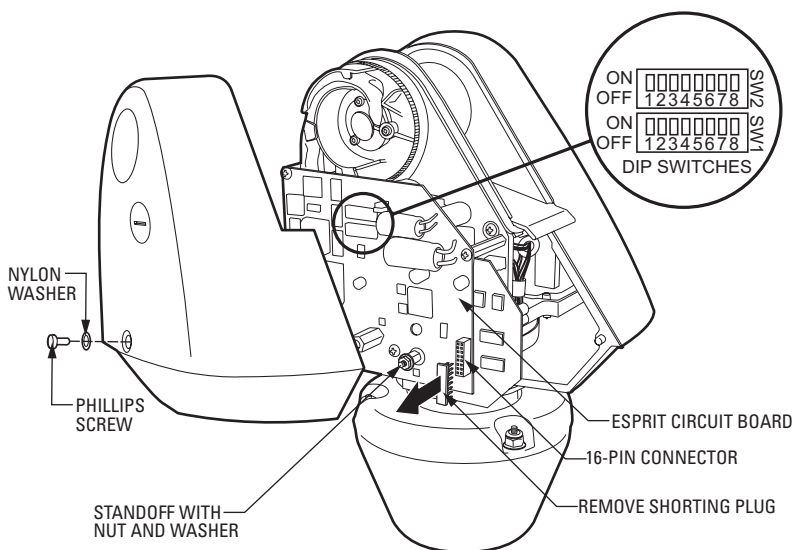

Figure 1. Esprit System
To install the TXB-B translator board in an Esprit system (refer to Figure 1):
8. Set the DIP switches on the Esprit system (refer to Figure 1 for switch location):